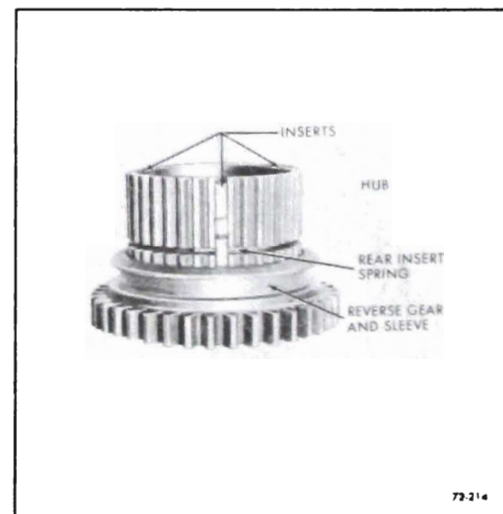

Figure 72-214 - Positioning Inserts
3. Position the three inserts in the hub with the small end over the spring and the shoulder inside of hub. See Figure 72-214.